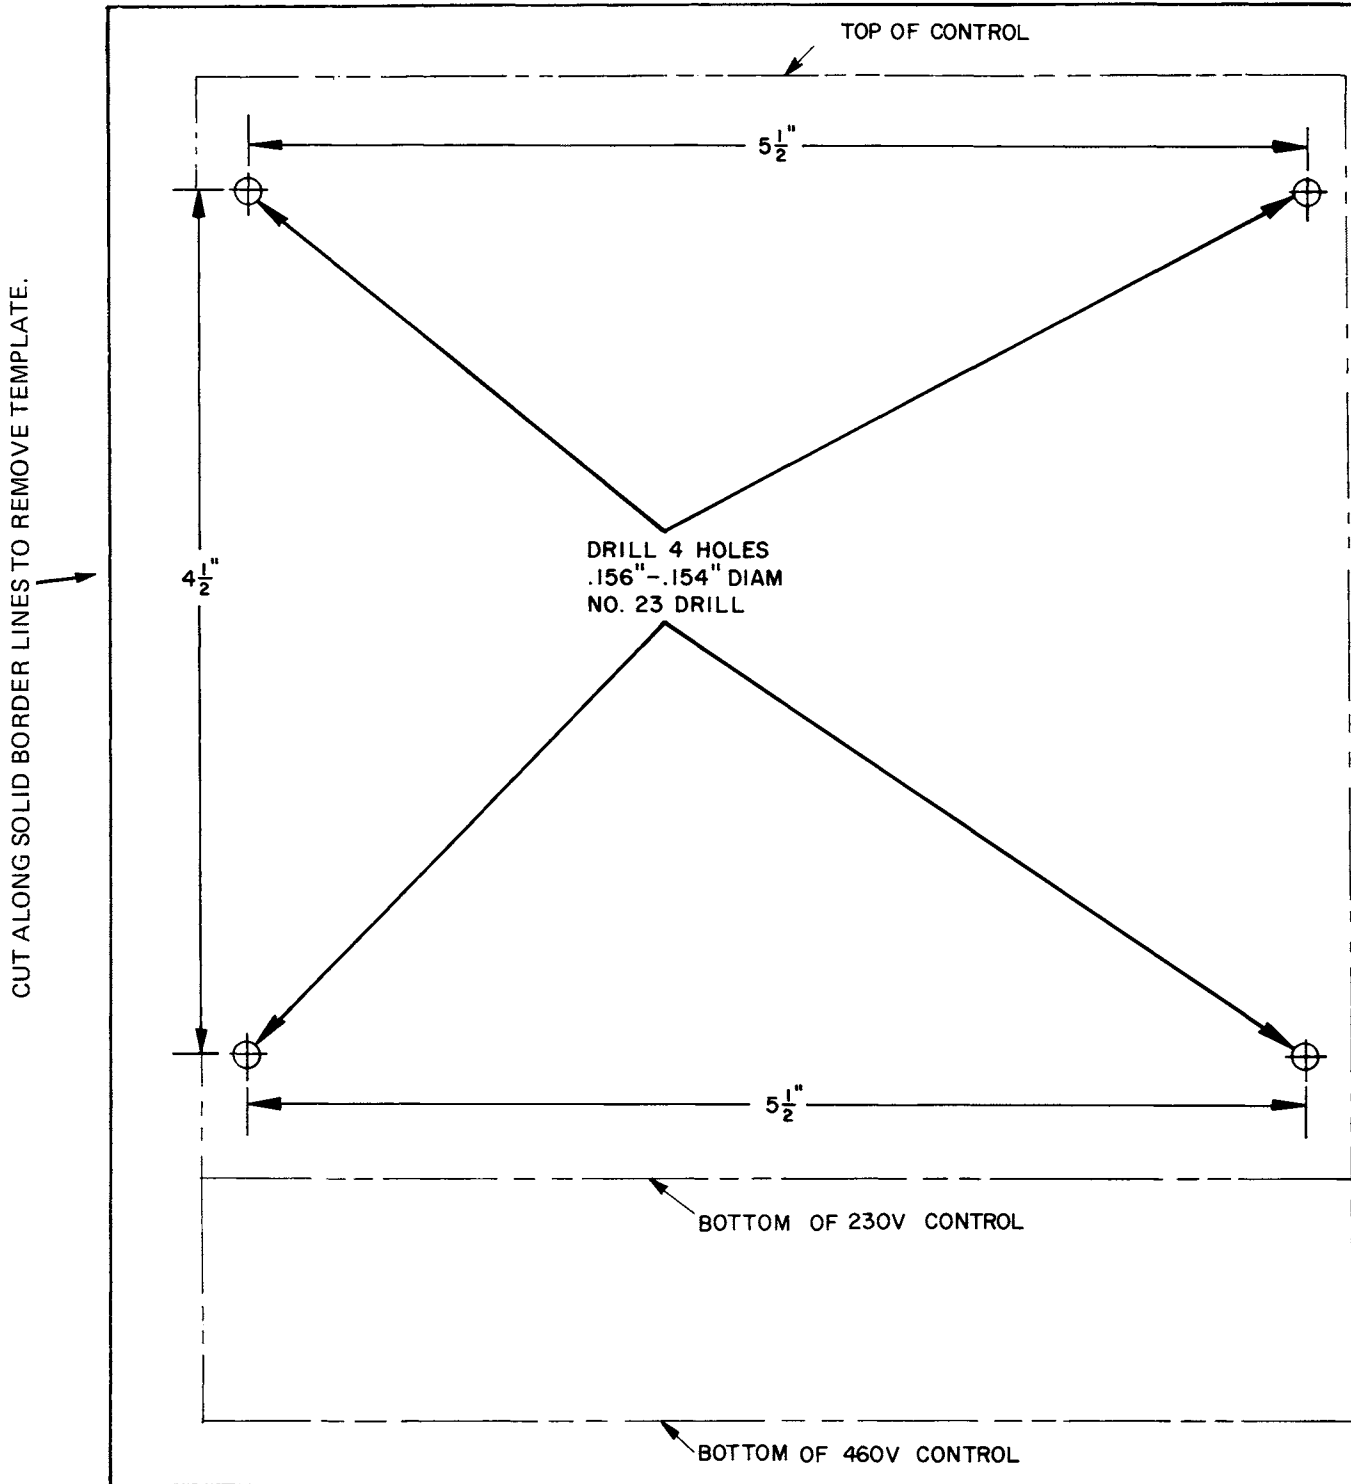

Fig. 3 — Mounting Template (32LT Motormaster® Control)
2. To determine location for the control, refer to base unit Wiring Diagrams book. Remove template (Fig. 3) from this instruction and tape to panel. Drill pilot holes as indicated.